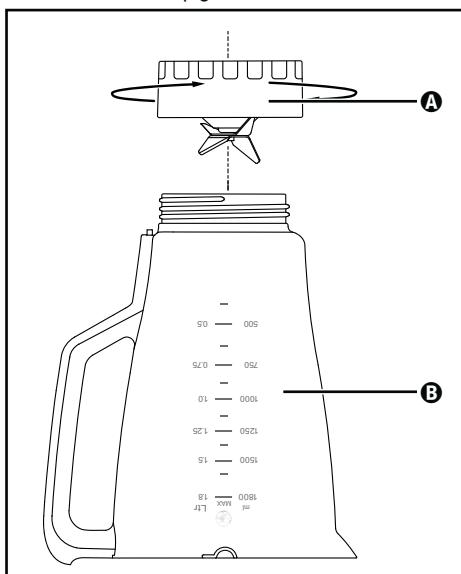

Fig. 3
- Turn the appliance upside down and turn the attachment **A** anticlockwise so that it can be detached from the jug **B** (see fig. 3).